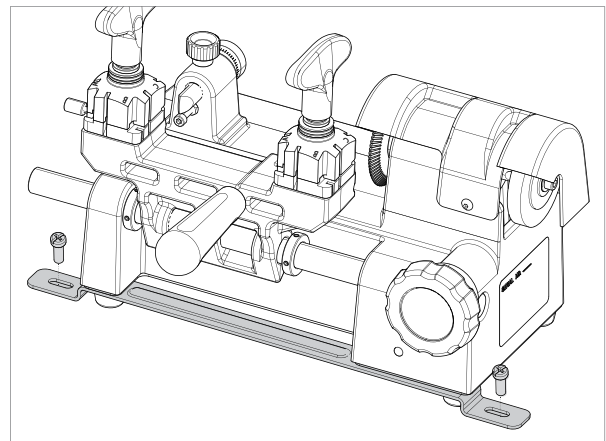

Fig. 12
- 4) Return the machine to its upright position and fix it on the work top (Fig. 12).